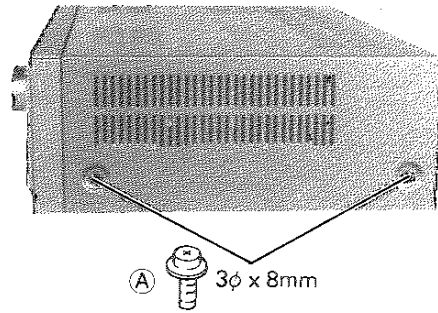

Figure 4
1. Remove six screw (A), (B) and (C) (3φ x 8mm) from both sides and back side, then the top cover can be removed as shown in Figures 4, 5 and 6.
1. Remove to cover as shown in Figures 4, 5 and 6.